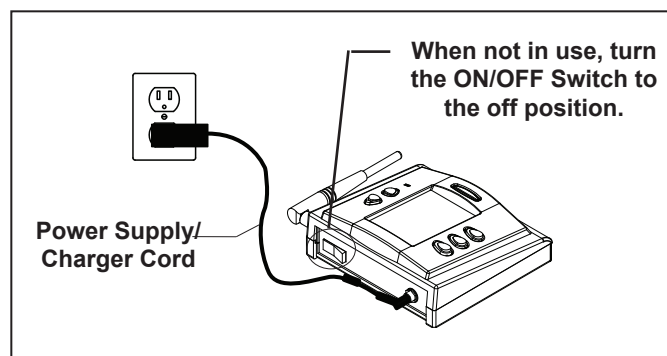

Figure 34. Wireless OneTouch™ Control Panel Installation
1. Connect the transformer to the back of the control panel (see Figure 34).